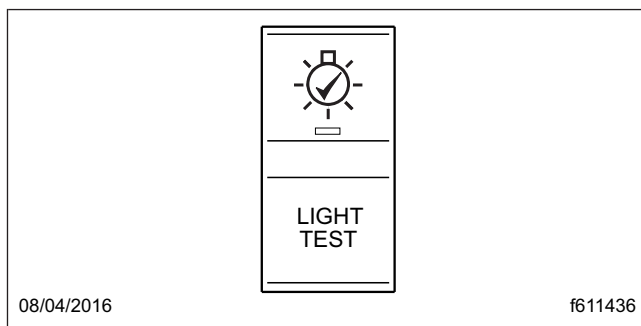

Fig. 21.8, Pretrip Light Test Switch
12. Check the operation of all exterior lamps manually or, if equipped, by using the LIGHT TEST switch on the dash. See **Fig. 21.8**.
14. To check the exterior lamps using the dash LIGHT TEST switch (see **Fig. 21.8**):